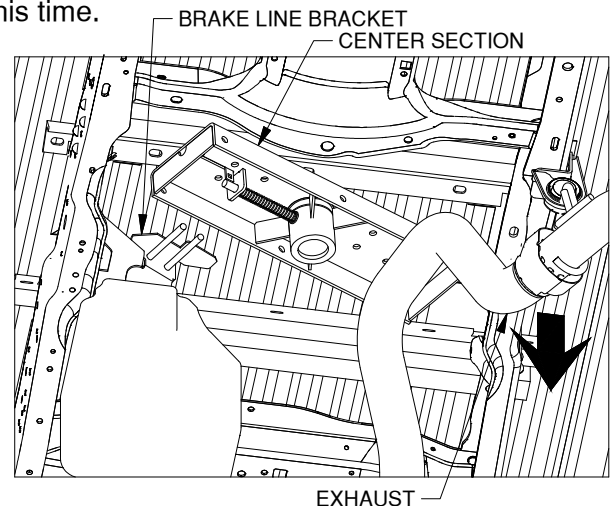

Figure B2: View under truck bed looking up at hitch.
- 3. Attach the cross members to the center.** Raise the center section into position between the cross members from beneath the truck, with the latch pin release handle on the drivers side. While holding down on the exhaust, position the center section over the exhaust first then over the brake line bracket, see Figure B2. A lifting device, as described on step 6 on page 2 . The round hitch receiver that protrudes from the top of the center section must fit through the hole in the truck bed floor. Slide the angles against the center section (an adjustable wrench can be used to stand the angles up if needed) and bolt together using six 1/2" x 1-1/2" bolts. Place the bolts with a flat washer through the slots in the cross member and through the holes in the center section and add a 1/2" lock washer and nut. Hand tighten hardware only at this time.